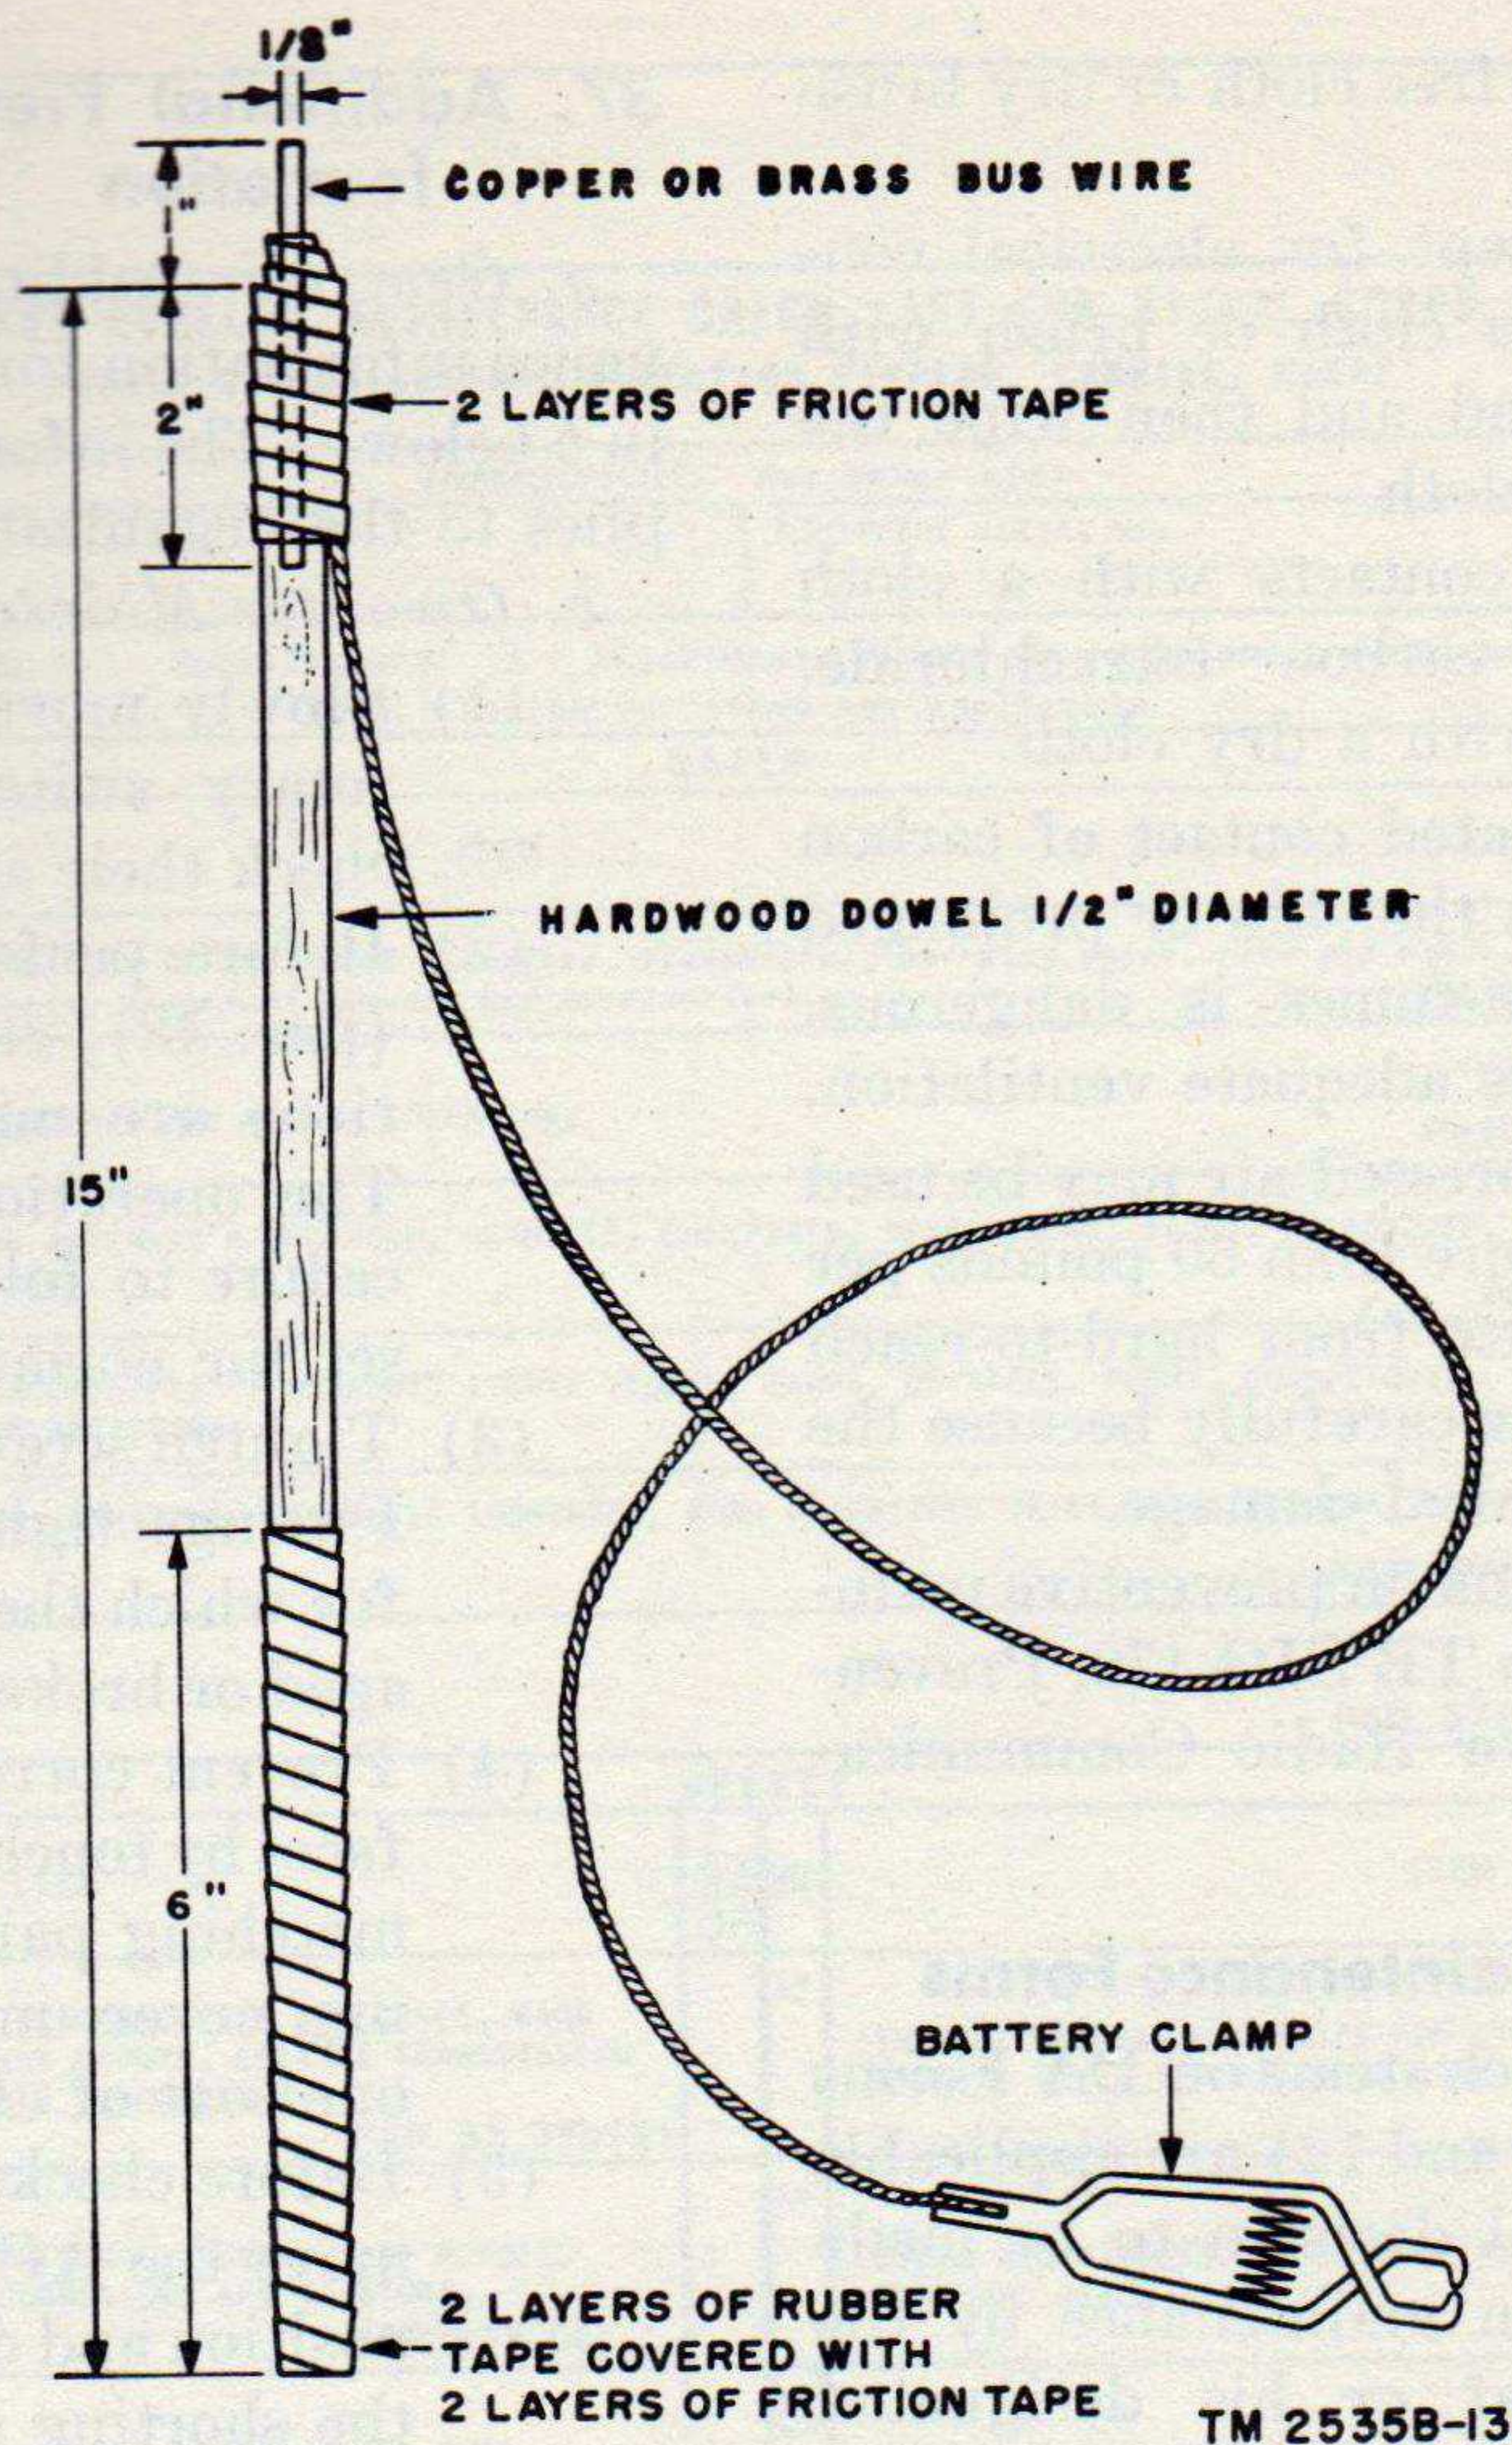

Figure 10. Shorting stick.
a. General. A shorting stick (fig. 10) is used to discharge capacitors before attempting to perform maintenance or troubleshooting operations. Normally when the AC LINE switch is moved to the OFF position, capacitors will discharge to ground through bleeder resistors or voltage dividers. If failure should occur in a discharging network, however, and the capacitors remain charged, a severe burn may result if a charged capacitor is touched.
- (1) Use a hardwood dowel approximately 1/2 inch in diameter and 15 inches long. Drill a hole 1/8 inch in diameter and 2 inches deep in one end of the dowel.
- (2) Press-fit a piece of copper or brass bus wire into the hole. Leave approximately 1 inch of wire extending beyond the dowel.
- (3) Solder one end of a 36-inch length of flexible, stranded, No. 10 wire to the bus wire as close to the dowel as possible. Attach a battery clamp to the other end of the flexible wire.